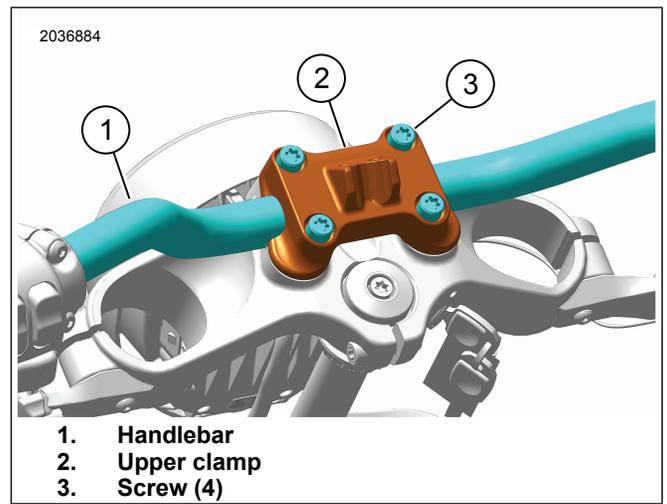

Figure 4. Upper Handlebar Clamp
6. See Figure 4. Remove four screw (3).
7. Remove upper clamp (2).
1. See Figure 4. Install upper handlebar clamp.
- a. Install upper clamp (2).
- b. Install four screws (3) loosely.
- c. Position handlebar (1) as marked during disassembly.
- d. Secure rear clamp screws (3) first and front clamp screws second (3). Tighten.